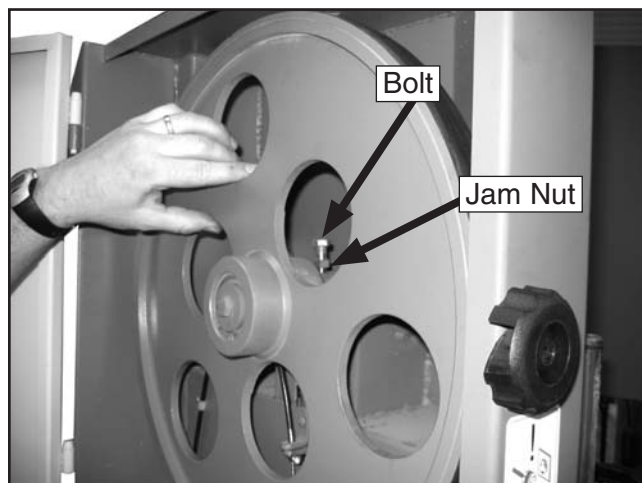

Figure 64. Bolt and jam nut securing upper wheel.
1. Loosen the jam nut and remove the bolt shown in **Figure 64**.